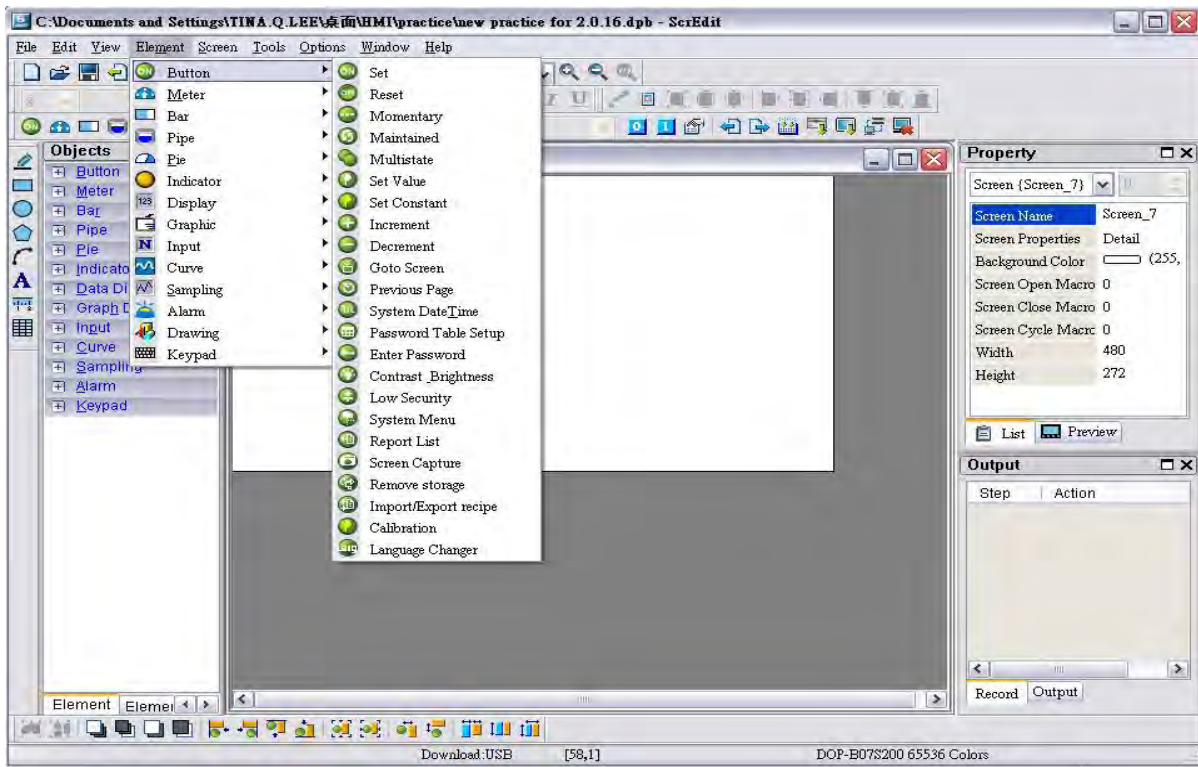

Fig. 3-8-2 Choose Element command from menu bar
2. Choose Element command from menu bar as Fig. 3-8-2.